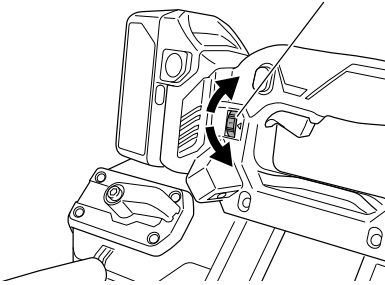

Fig. 11
8. Adjusting operating speed (Fig. 11)